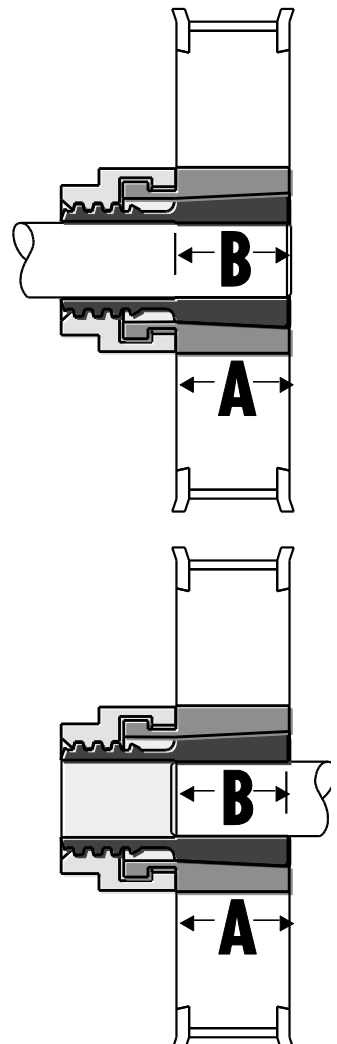

Fig. 1
8.1 Insert Trantorque Mini into the borehole of the attachment part. The clamping surface (A) of the Trantorque Mini must be completely enclosed here in order for the indicated torque or the indicated axial force to be transmitted (see Fig. 1).
8.2 Put the Trantorque Mini along with the attachment part onto the shaft and position it as desired. When doing so ensure that the shaft is completely enclosed by the shaft clamping surface (B) of the Trantorque Mini (see Fig. 1).